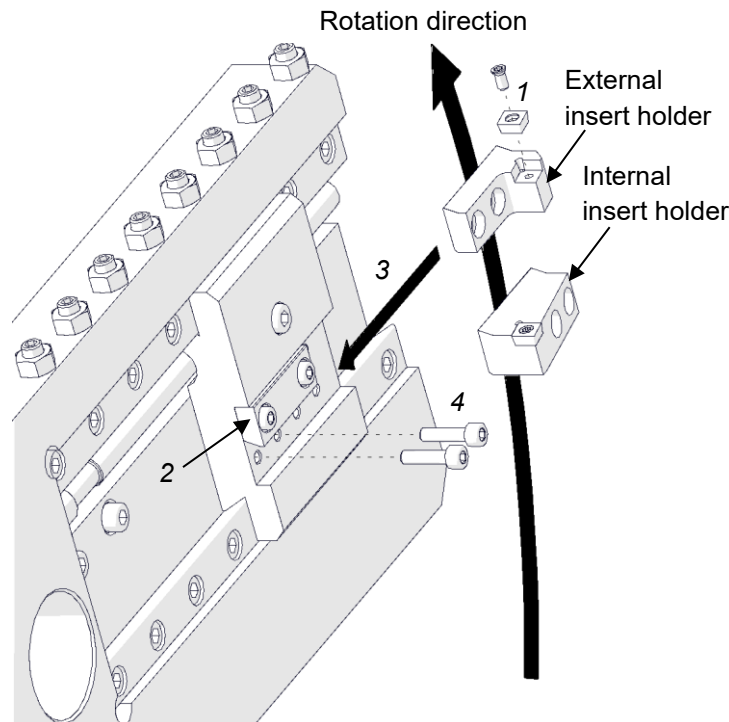

Fig. 9. Installing the tool
Depending on the diameter of the flange to be machined, select either the internal ($\varnothing 90$ – 451 , 3.54–17.76") or external insert holder ($\varnothing 147$ – 508 , 5.79–20.00"). Then, use the supplied screwdriver to install a cutting insert onto the insert holder (1, Fig. 9). Next, use the 4 mm hex wrench to tighten the clamp (2), and then slide the insert holder under the clamp (3) and tighten with the screws (4).